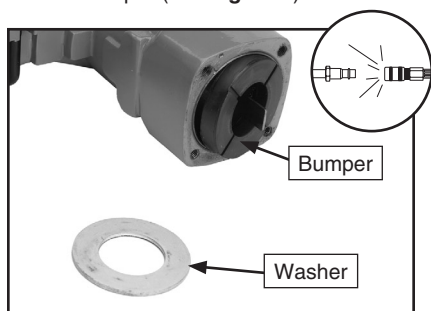

Figure 9. Bumper and washer.
4. Carefully slide the base off of the driver and remove the large washer and rubber bumper (see **Figure 9**).